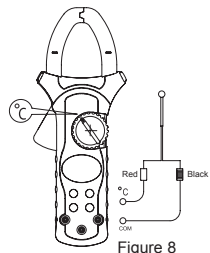

Figure 8
G. Measuring Temperature (See Figure 8)